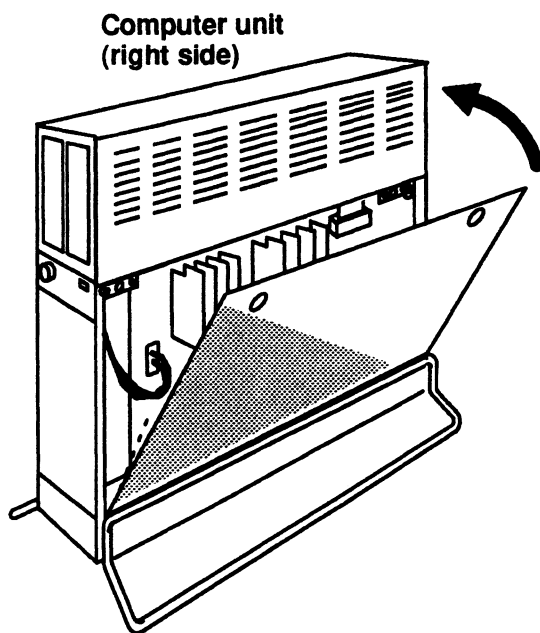

Figure 1-13 Installing the Side Covers
3. Rotate the cover as shown in Figure 1-13 so that it is against the side of the computer unit.